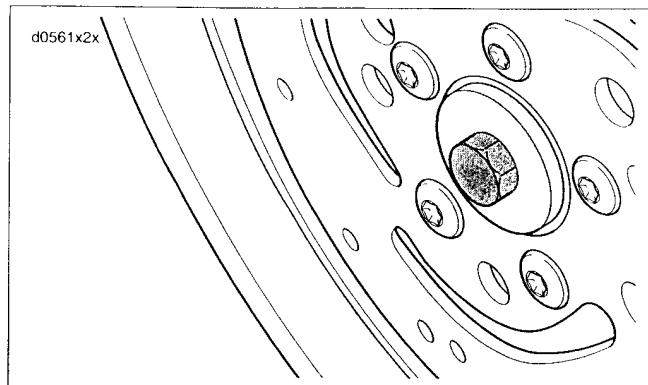

Figure 2-16. Installation Tool Support Plate
- See Figure 2-16. Place threaded rod through support plate. Insert assembly through wheel.